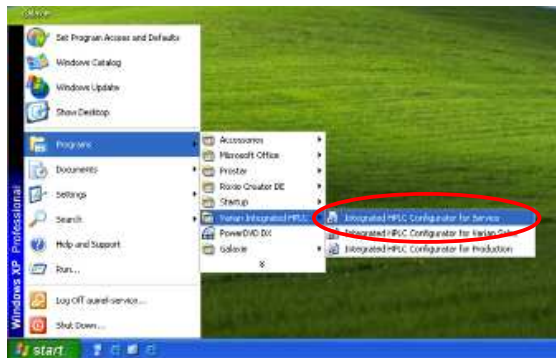

Figure 21: Service Configurator
2. Once the configurator has opened, click on the *Find systems* button (1) and wait to see which systems appear. Select the system (2) that you want to upgrade (Figure 21).